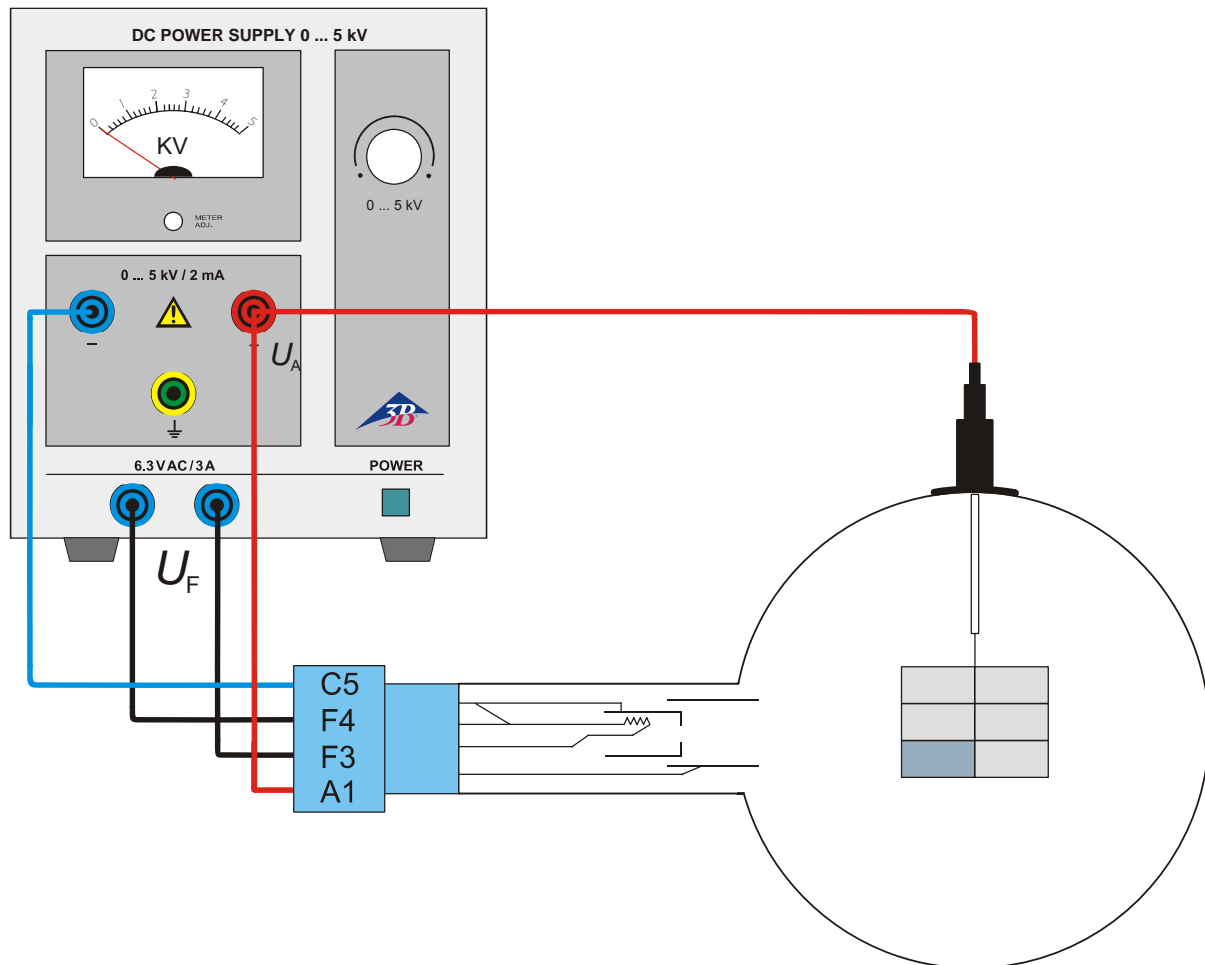

Fig. 1 Excitation by cathode ray bombardment
- Set up the luminescence tube as shown in fig.1.